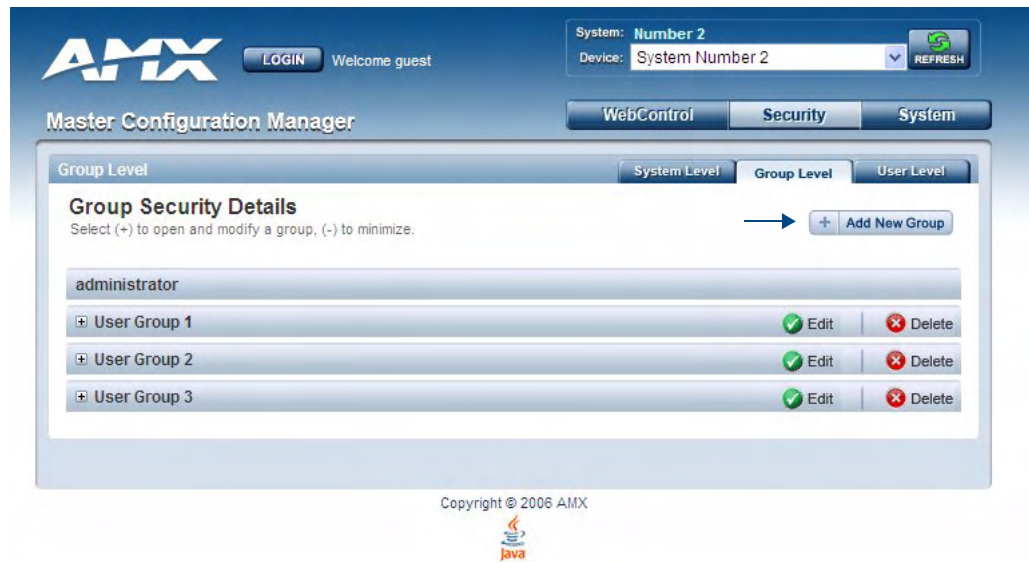
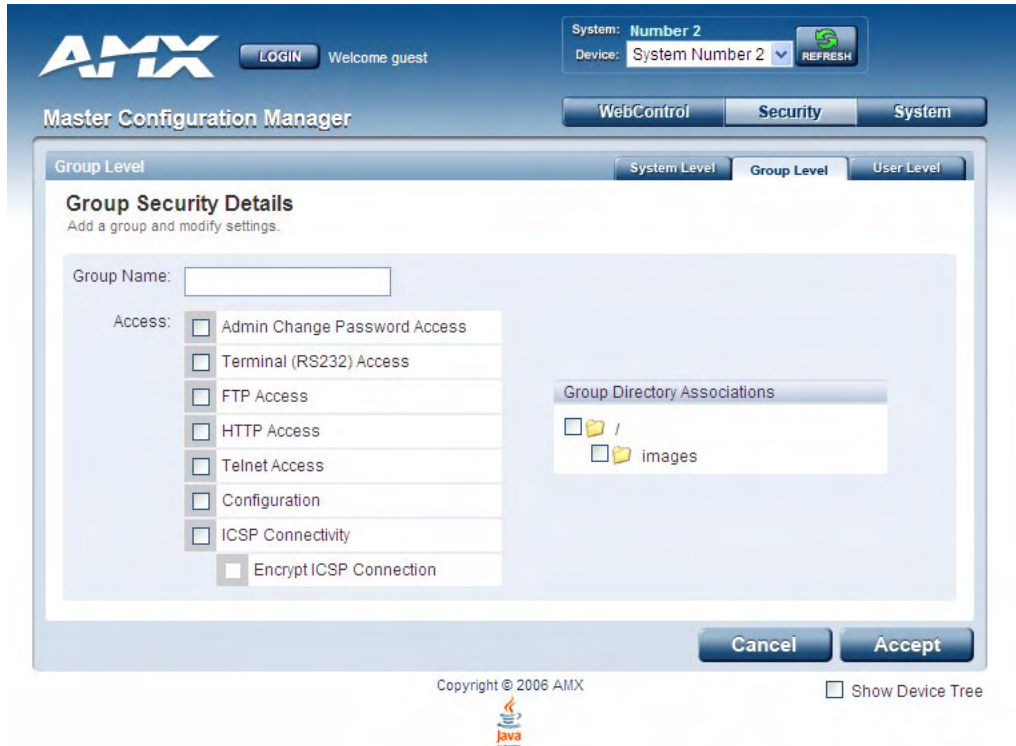

FIG. 5 Group Security Details page
FIG. 6 Group Level Security Settings Page (Add a group and modify settings page)
Select the *Group Level* tab of the Security Page to access the **Group Security Details** page (FIG. 5).
2. Click the **Add New Group** button (see FIG. 5) to access the **Add a group and modify settings** page (FIG. 6).